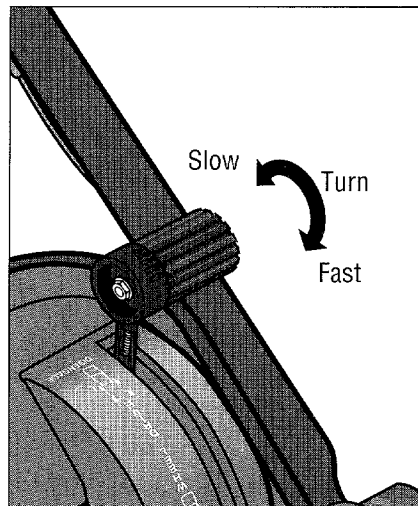

Figure 4-7: To set wheel speed, put Wheel Speed Lever in DISENGAGE position and turn adjustment knob to desired speed setting.
B. Turn the Wheel Speed Adjustment Knob (on end of lever) until the arrow on the knob points to the desired setting: **1** (*slow*) to **5** (*fast*). See Figure 4-7.